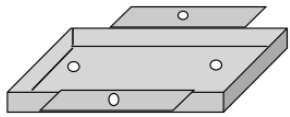

Figure 5
6. Install blank plate using 2 – 6 x 3/8" screws on the add-on cabinet opposite the opening that the electric element was installed in. Make sure that the electric element support rod fits through the hole in the blank plate (figures 5 and 6).